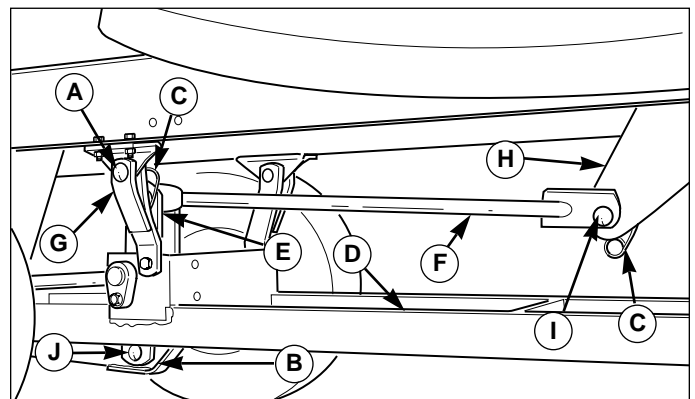

Figure 36. Lift Rod
7. See Figure 36. Disconnect the dozer lift arm (B) from the hitch lift arm (E).
9. See Figure 36. Disconnect the lift rod (F) from the lift extension (H).
10. See Figure 36. Remove the clevis pins (A) attaching the front and rear of the hitch to the tractor. Remove the hitch.
11. If the mower deck is being installed, remove the lift extension (H, Figure 36).